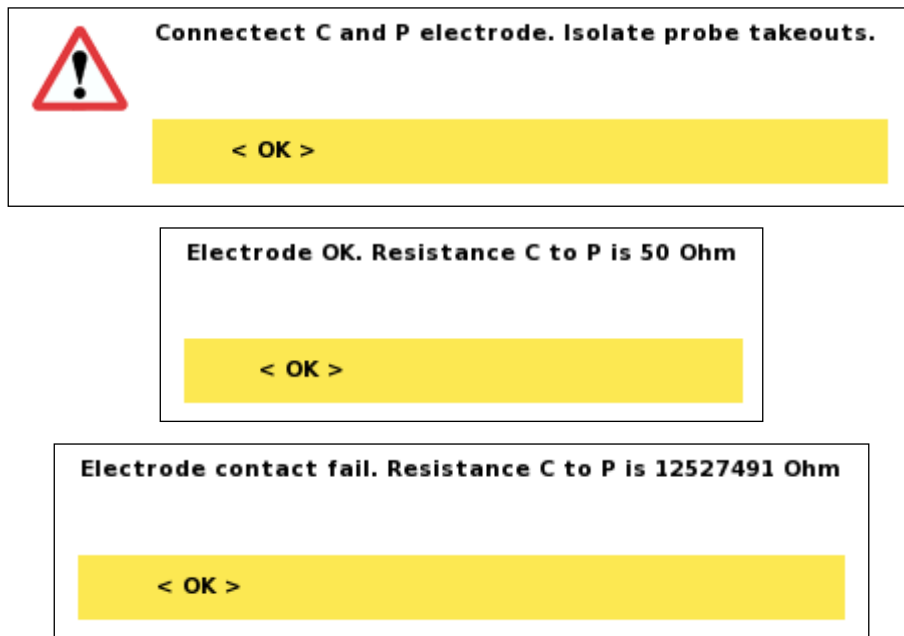

Figure 80 The Electrode Test dialogs
- Follow the instruction on the first dialog (Figure 80)